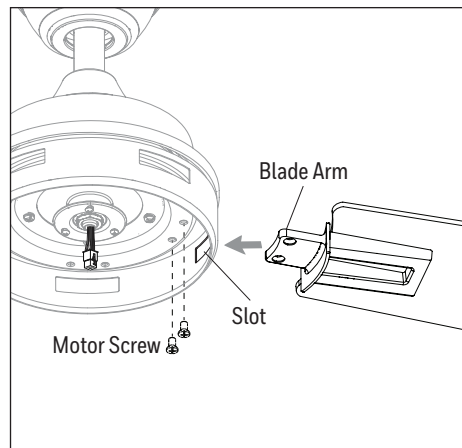

Figure 5.5
- Insert blade arm through slots in the side of the motor assembly. Align the holes of one blade arm with two motor screw holes in underside of the motor assembly. Secure with two motor screws. Repeat this step for the remaining blade arms (Figure 5.5).